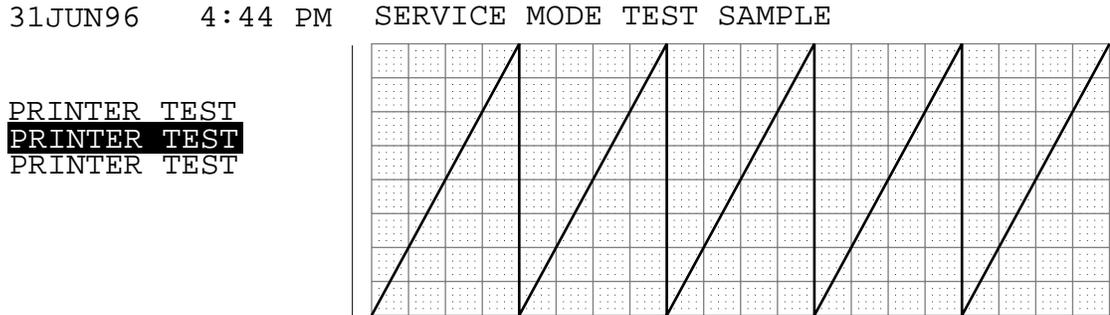

Figure 3-8: Waveform Test Printout
- Press softkey #2, "WAVEFORM TEST". Verify that a sample waveform prints as illustrated in Figure 3-8.